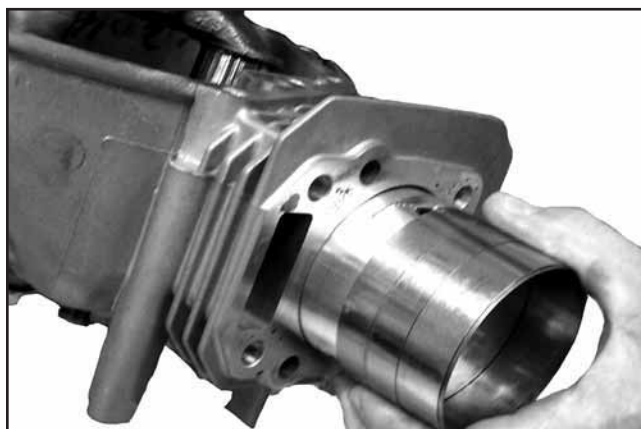

Figure 10-4. Installing Piston.
4. Carefully guide the connecting rod, with piston attached, into the bore. See Figure 10-4.